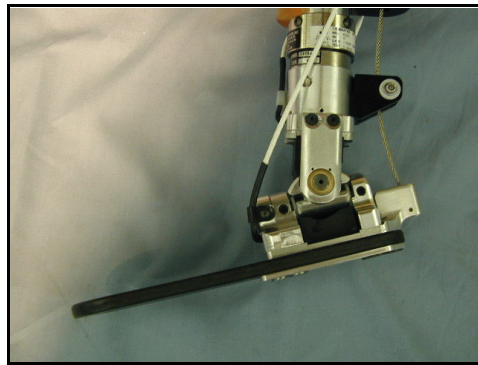

Figure 3.44 - Neutral Position
5. Position the foot in the neutral position of 15 degrees plantar flexion as shown in **Figure 3.44**. Adjust the Achilles Retaining Nut to remove the slack from the cable and the spring tube assembly. The soft foam compression element should have a very small amount of compression at this time - just touching.